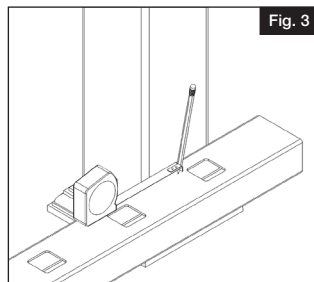

Fig. 3
- Mark $\frac{1}{8}$ " from end of post to allow room for brackets (Fig 3).